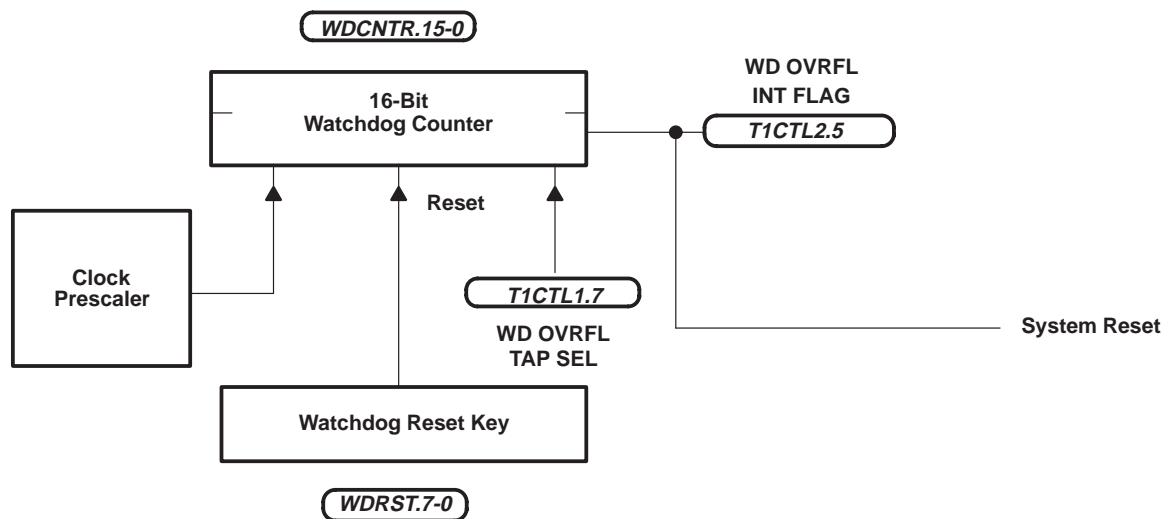

Figure 9. Hard Watchdog
- Hard watchdog configuration for mask-ROM device (see Figure 9)